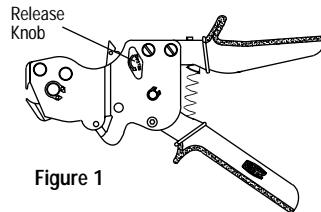
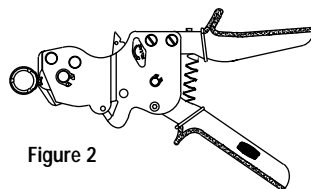

Figure 1
Figure 2
- 4) Open the QCRTQCRM tool by turning the Release Knob counterclockwise (Figure 1). Place the jaws completely over the QickClamp pinch ear. With the tool at a 90° angle to the tube (Figure 2), close the tool by squeezing the handles together repeatedly until the LED light comes on. This may take 6-8 squeezes (Figure 3).